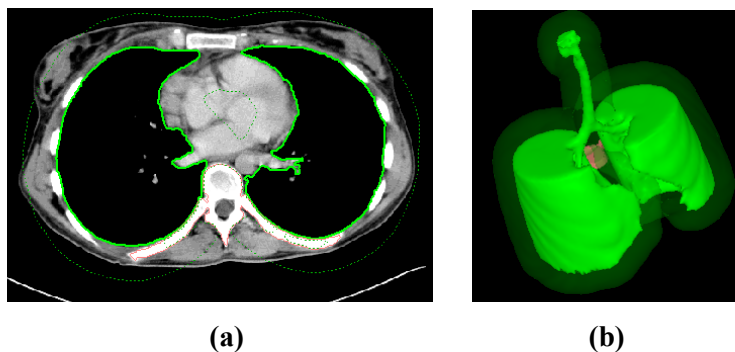

Figure 244 – Created ROI margin in 2D (a), in 3D (b)
6. Push the **Calculate** button. The created margin will be displayed as a dashed line (see Figure 244).